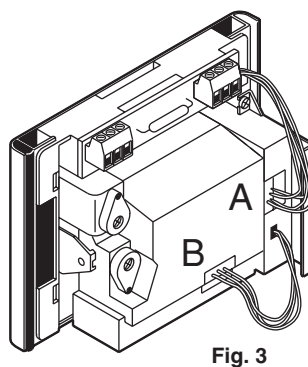

Fig. 3
3. Insert connector A in the coupling of the device and connector B in the coupling of the TV camera (Fig. 3).